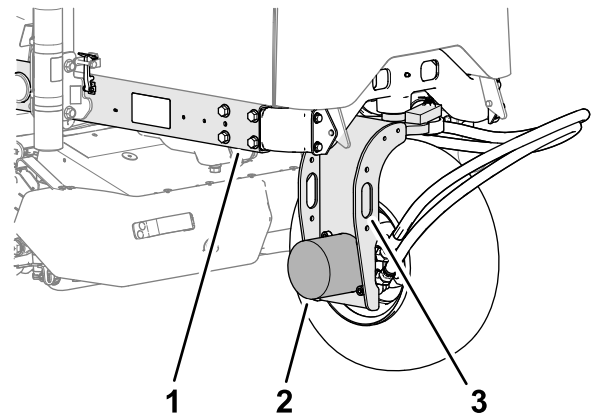

Figure 54
2. Secure the hoist to the tie-down loop of the rear-wheel fork (Figure 54).